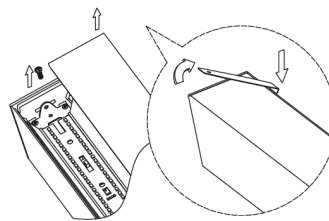

Fig. 14
1. Remove lens, LED reflector strip, and end cap. (Fig. 14 & 15)